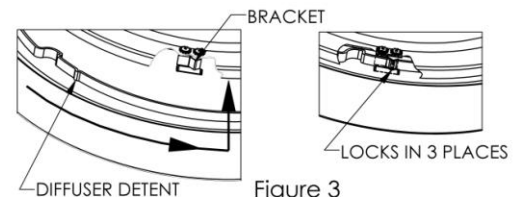

Figure 3
- A. Raise the diffuser (6) up into the pan (4) with the widest part of the diffuser opening aligned with three brackets on the pan, **Figure 3**.